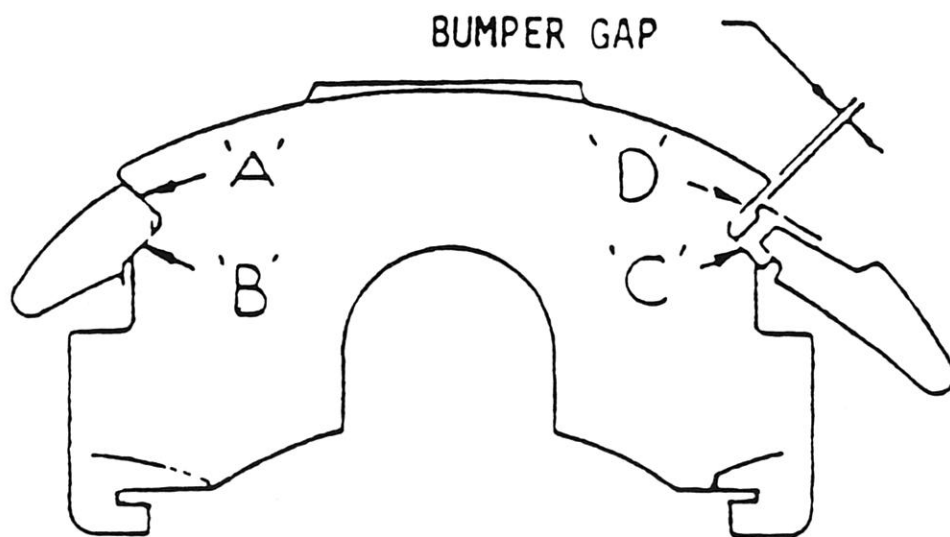

Fig. 2
5. Insert a screw driver into center of key/bumper gap and pry firmly to assure that the caliper is seated against the three slide surfaces A, B and C (see Figure 2).
6. Measure the bumper gap with largest feeler gauge (or stack of gauges) that will fit into the gap on either side of the screw driver (see Figure 2).